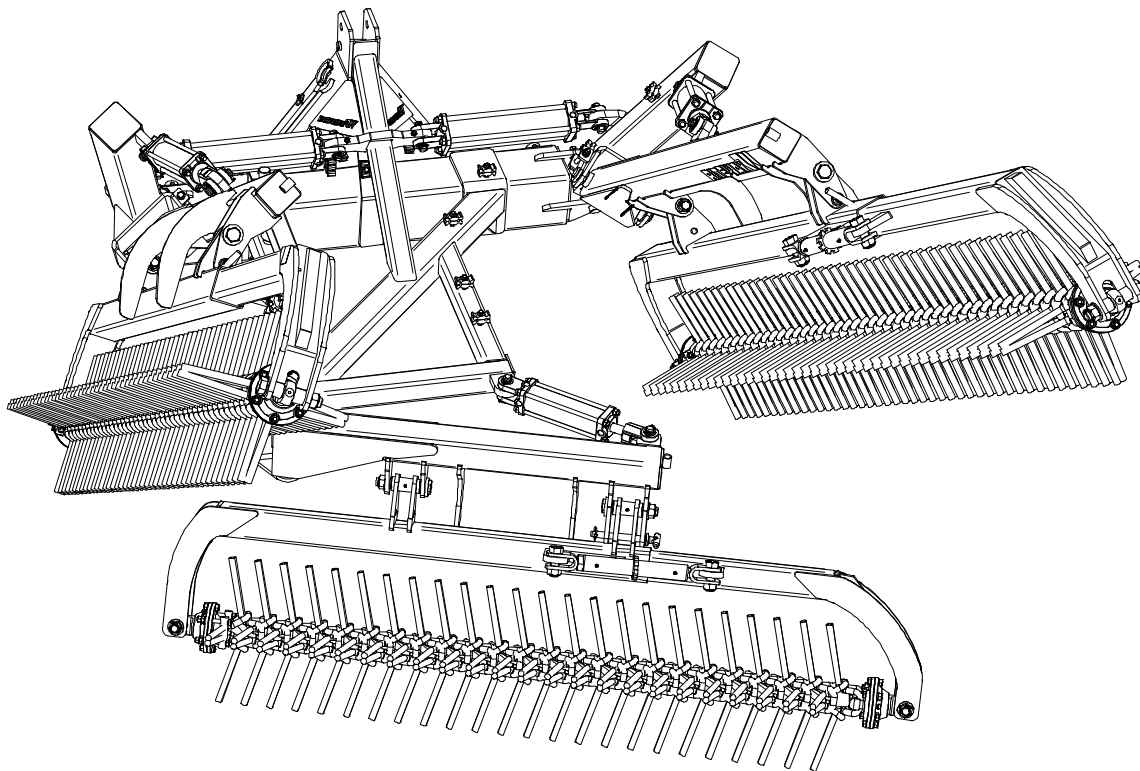

FIGURE 3: Transport position
4. Ensure there are no overhead obstructions or hazards, then retract wing lift cylinders (**YELLOW** hydraulic remote) to bring the wings to the fully raised vertical/swept back position (fig. 3).